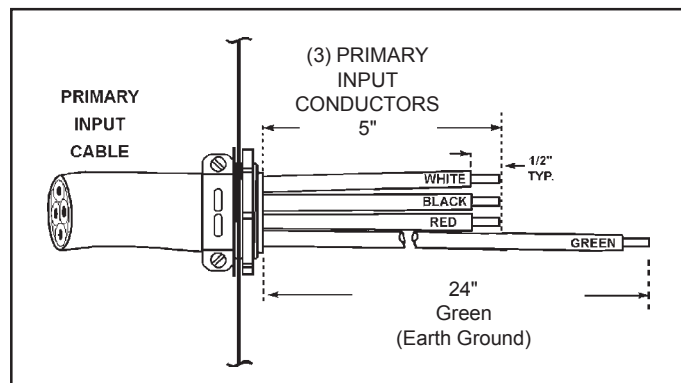

Figure 3-2. Recommended Cable Strip Lengths
3. When using the provided strain relief, refer to Figure 3-2 for proper cable strip lengths. It is important to follow the cable strip guide to ensure that if the primary input cable is ever pulled from the strain relief, the input conductors will be pulled from the Terminal Block before the ground lead is pulled from the ground lug. Once stripped, thread the input and ground conductors through the large strain-relief in the rear panel of the power source. Connect the ground wire to the terminal lug located on the fan shroud frame. Connect the primary power leads to terminals L1, L2 and L3 on the input power block. Secure the strain relief on the input cable.